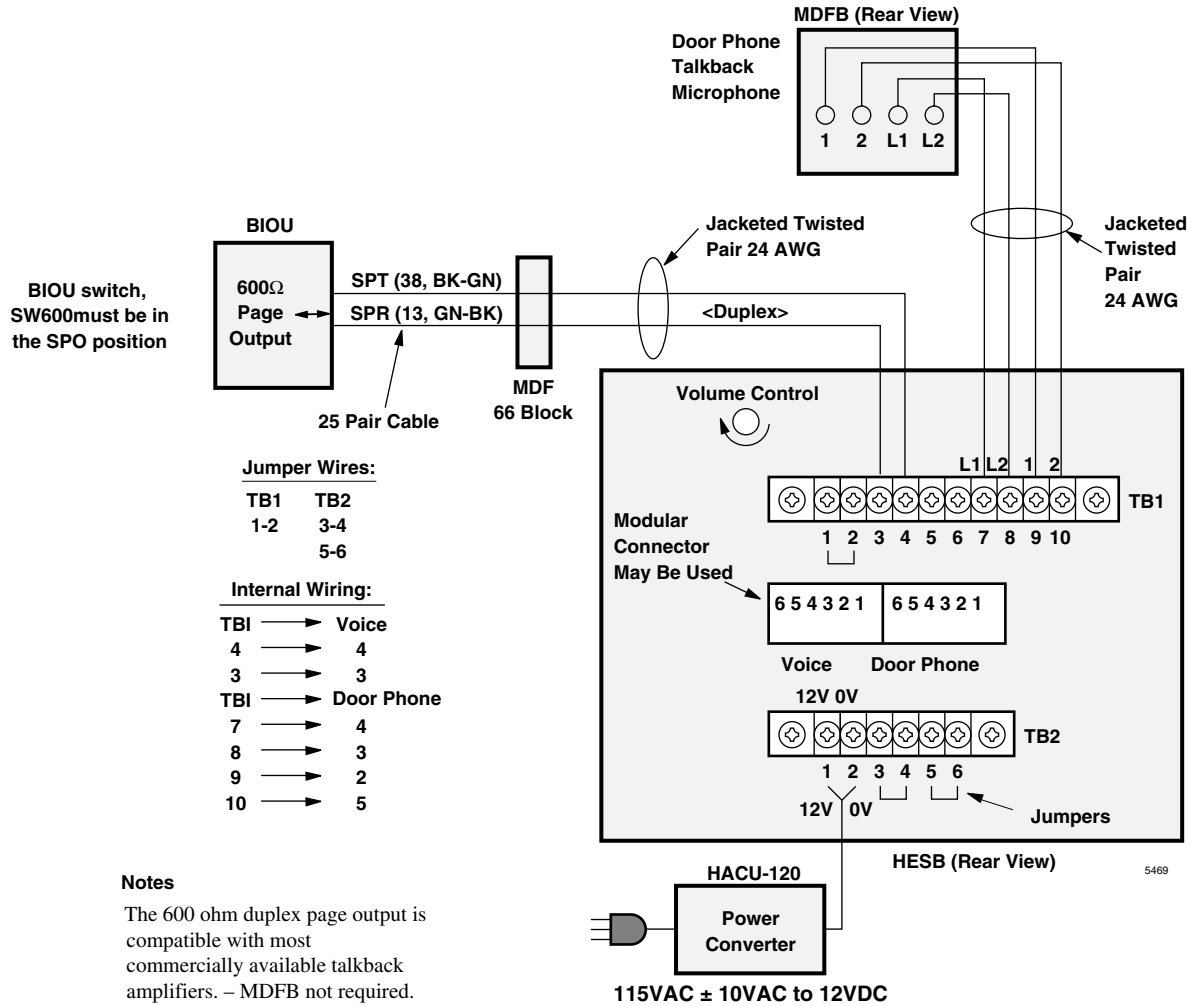

Figure 12-23 Amplified Page/Talk-Back with HESB Interface
1. Connect a jumper between terminals 1 and 2 of the HESB TB1 terminal block (see Figure 12-23).